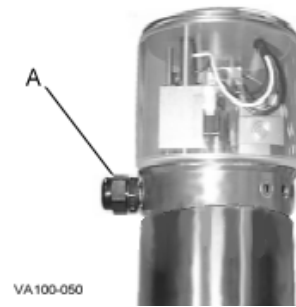

Figure 3 - Control Top Wire Connection Point
6. Connect the electrical control cord to the valve through location A shown in Figure 3.